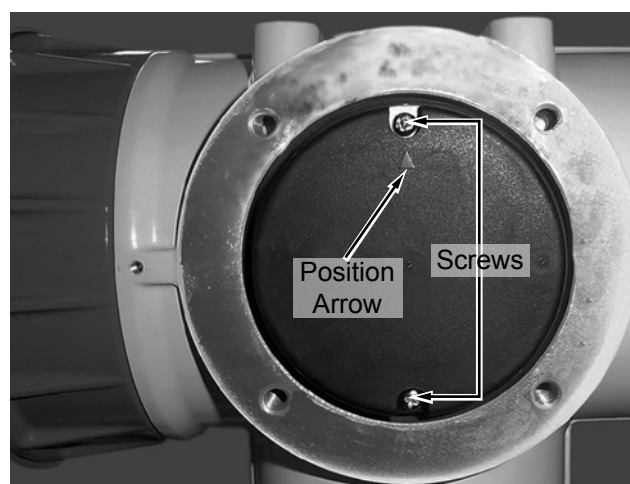

Figure 2.4—Black plastic cap, detail view
- d. Unscrew and remove the two M3×10mm screws holding the black plastic cap in place (Figure 2.4). Set screws aside for reassembly.
10. Replace the black plastic cap, ensuring that the position arrow is pointing up (Figure 2.4, page 10) and secure with the fasteners removed in Step 2d.